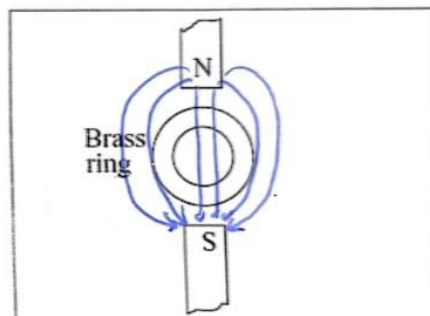

Figure 1.12
2.3.3 Arrange the two magnets and the brass ring as shown in Figure 1.12, placing a piece of cardboard/paper (or clear perspex sheet) on top of the arrangement. Sprinkle the iron filings evenly and lightly over the cardboard/paper and gently tap the cardboard/paper until the filings form a pattern.